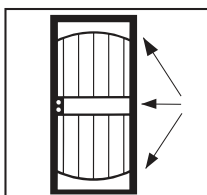

FIGURE 3
3. Place security door in front of opening at desired height, making sure that the security door is vertical (plumb). Determine where to drill by marking through the pre-drilled holes on the **hinge-side jamb** with pencil (Fig. 3).